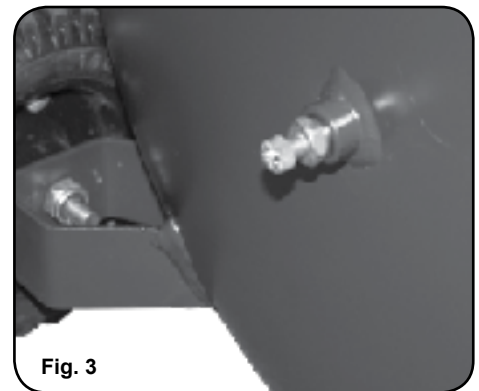

Fig. 3
1. Open (turn the brass knurled knob out, counter-clockwise) the air tank Moisture release petcock (fig. 3) to permit air to escape, so no air pressure builds up in the air tank.
2. Open the Moisture release petcock (*fig. 3*) underneath the tank and release all the air and moisture inside.